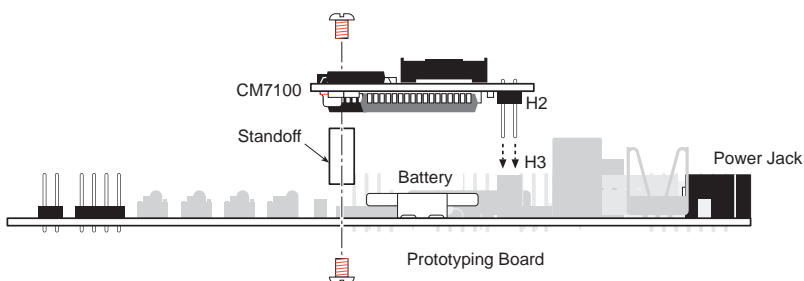

Figure 2-7. Connecting CM7100 to Prototyping Board
3. Plug the CM7100 into the Prototyping Board as shown in Figure 2-7. Plug header H2 of the CM7100 into connector H3 of the Prototyping Board. Pins 1 of the header and connector must match. The CM7100 will hang over the battery on the Prototyping Board. For maximum stability, install the supplied standoff between the CM7100 and the Prototyping Board.